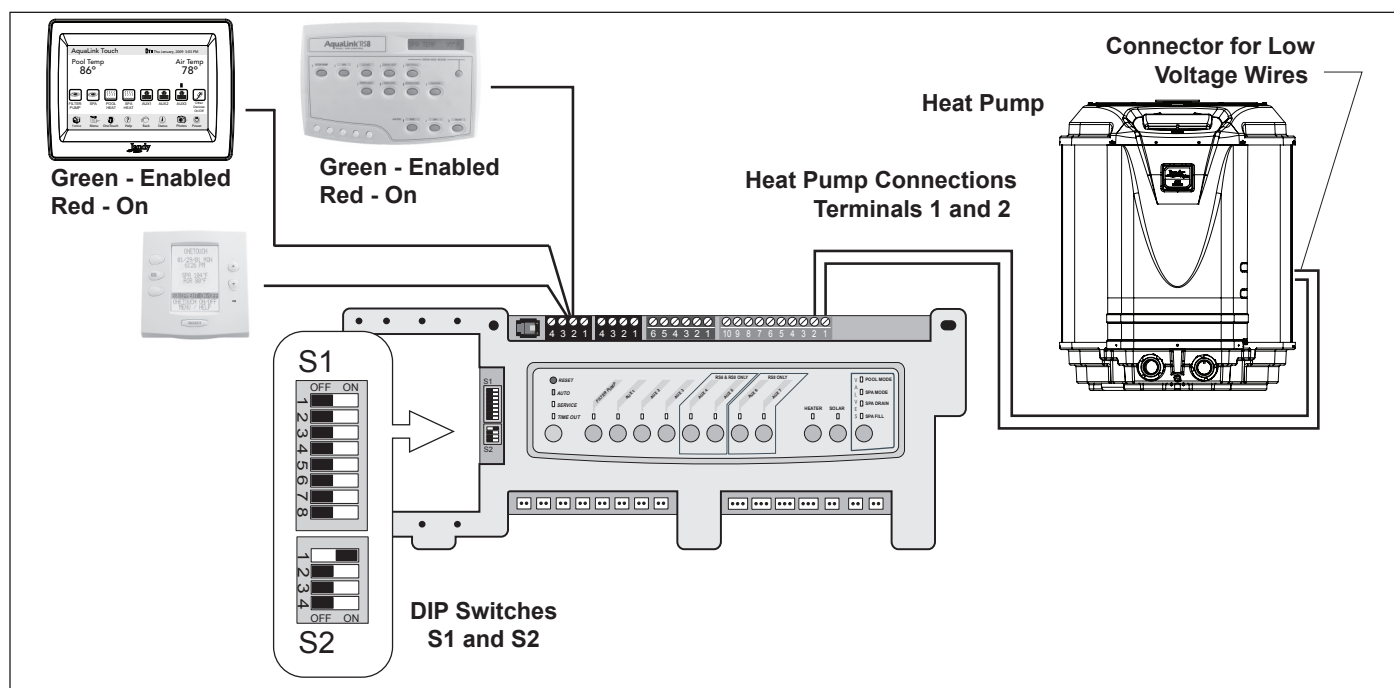

Figure 12. AquaLink RS to Jandy Pro Series JE Heat Pump - T-Stat (2 wire) connection
2. Connect two (2) wires to the AquaLink RS green 10-pin terminals 1 and 2.
3. Put DIP S2-1 (pin #1 of the 4 position DIP switch) into the ON position (see Figure 12).